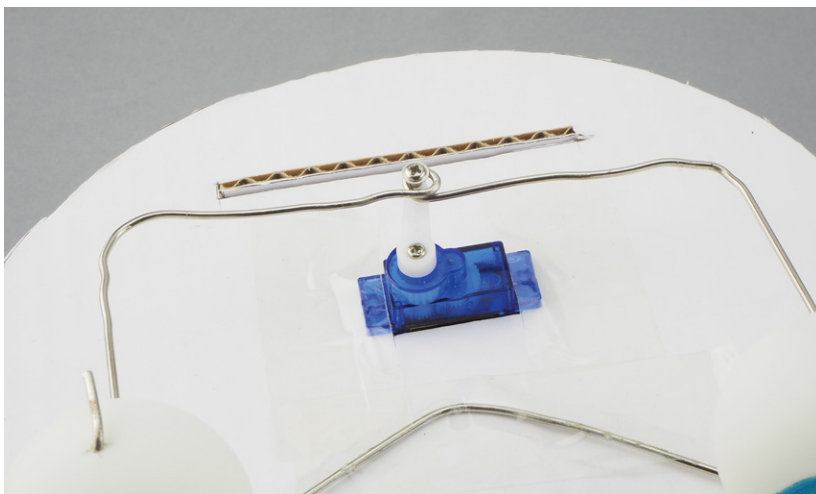

Figure 6-20: Fitting the servomotor-eyeball connector to the card
19. Adjust the connector by bending the paper clip until the arms are the same distance apart as the holes in the backs of the eyeballs. Then, hook the wire into the backs of the eyeballs. Use one of the screws provided with the servomotor to fasten the loop to the tip of the servomotor's arm, as shown in Figure 6-20. Depending on how snugly the servomotor fits its cutout in the top card, you may need to tape down the motor to prevent it from moving.